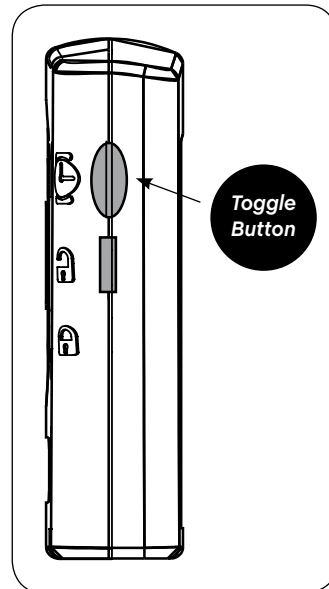

figure 7B: Check Device Charge
- B. Check to make sure the Power Controller holds enough charge to provide the desired duration of treatment. Press the *Toggle Button* on the **sam** Power Controller to view the battery indicator lights (Figure 7B). The lights will illuminate to show how much battery life is remaining in the device. If the device is not fully charged it may not be able to deliver treatment for 4 hours. The device will only permit the user to set a treatment duration for which the battery charge is capable of fulfilling.